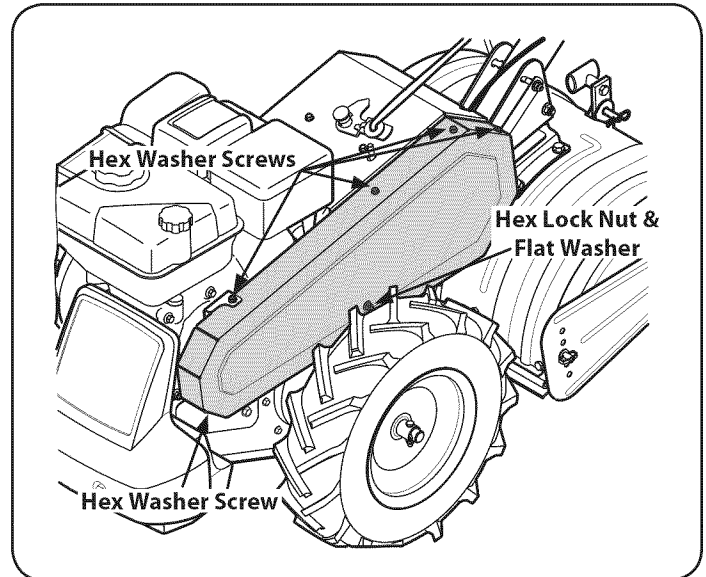

Figure 28
1. Remove the belt cover from the left side of the tiller by removing the five hex washer screws from the top of the belt cover. See Figure 28.
2. Remove the hex lock nut and flat washer from the front side of the belt cover. See Figure 28.
4. Remove the idler pulley by removing the hex screw and jam lock nut. See Figure 28.
5. Remove the old belt and install the new belt. Follow the instructions in reverse order to re-install the belt keeper and belt cover. See Figure 28.